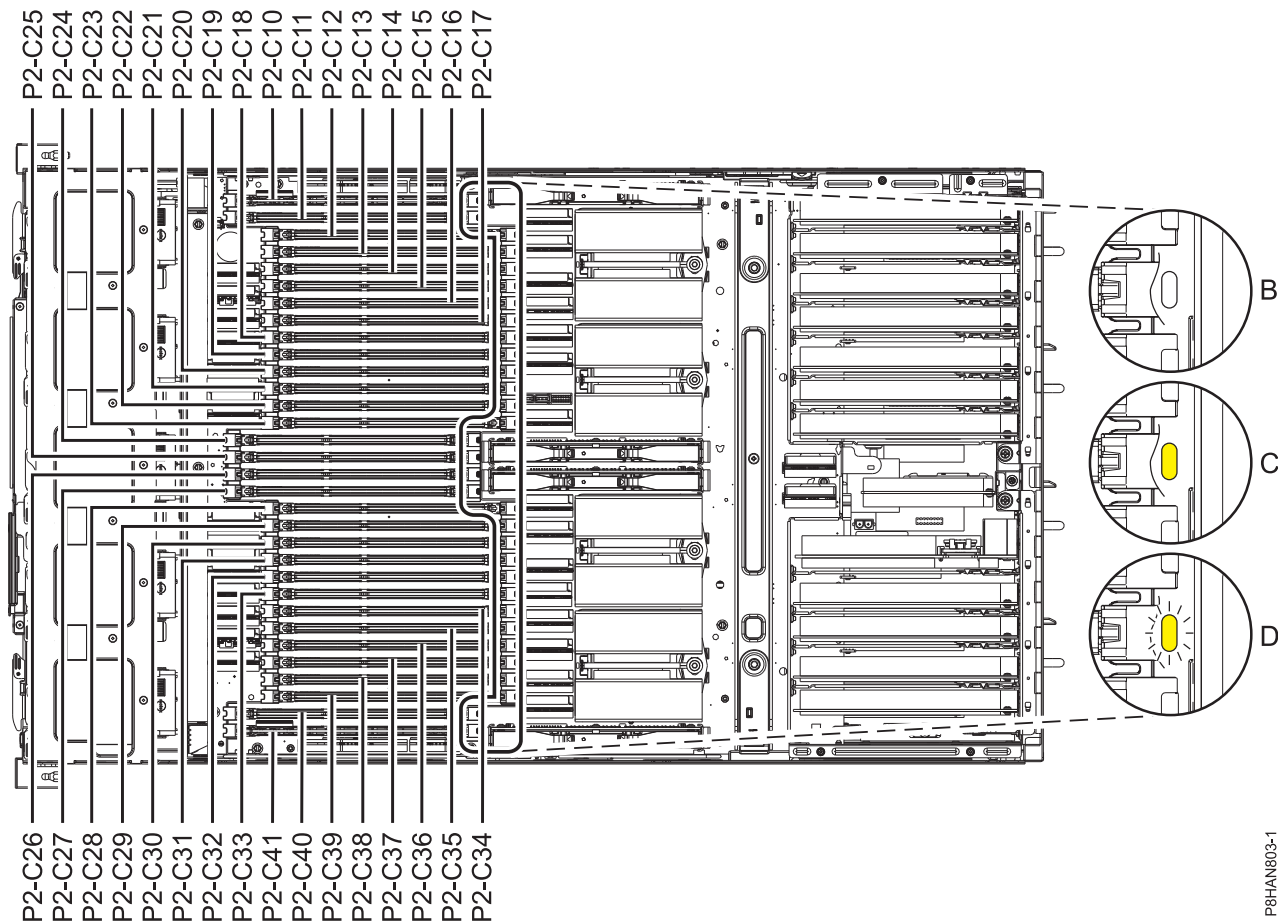

Figure 4. Location of the memory slots and LEDs
3. Locate the memory slot LED. Figure 4 on page 7 shows the location of the memory slots and LEDs.